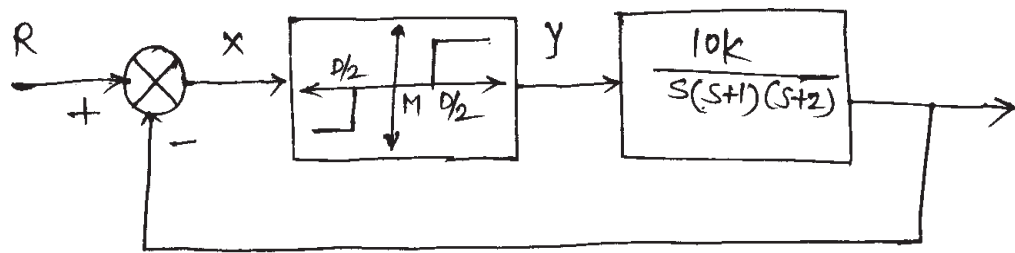

Fig. 2
b) Find frequency & Gain (K) of limit cycle for the system shown in the figure. 2. [12]